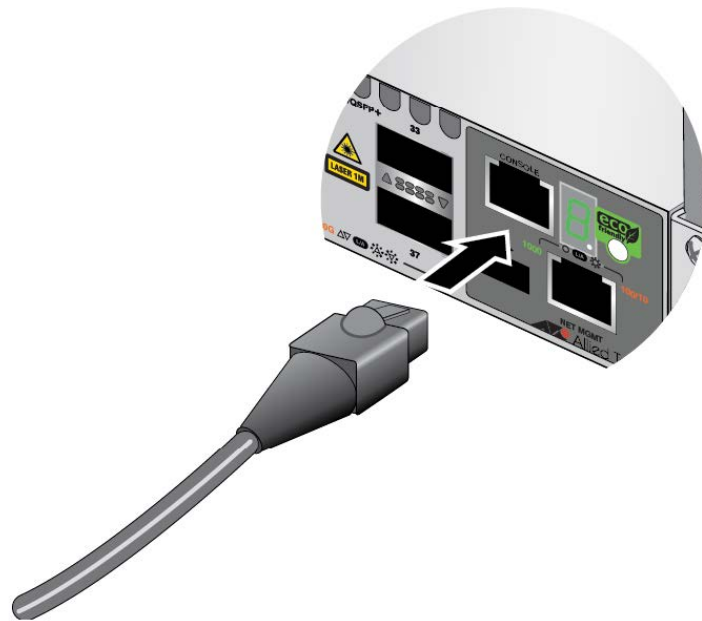

Figure 107. Connecting the Management Cable to the Console RS-232 Port
1. Connect the RJ-45 end of the management card included with the switch to the Console RS-232 port on the management panel. Refer to Figure 107.